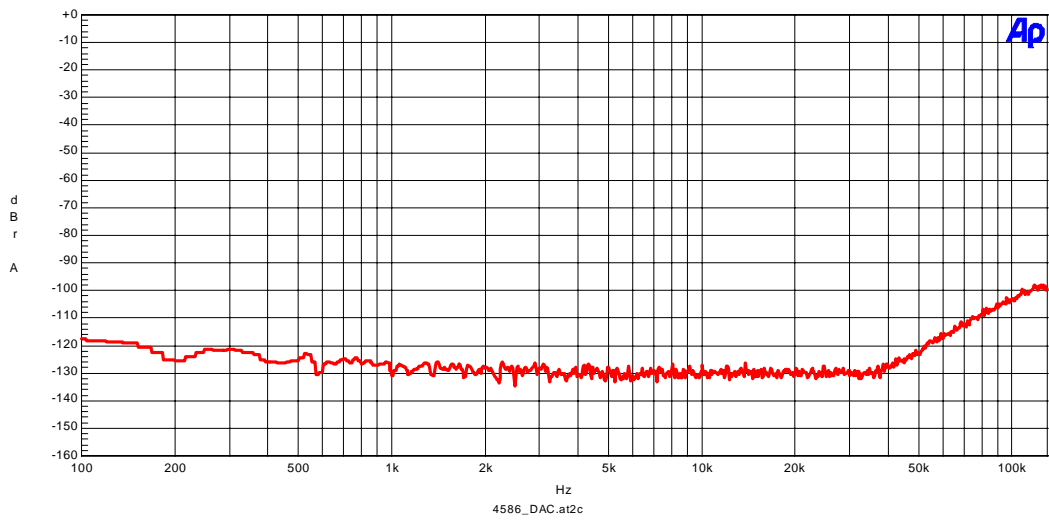

Figure 3-4. FFT (Outband noise)
- Figure 3-4. FFT (Outband noise)